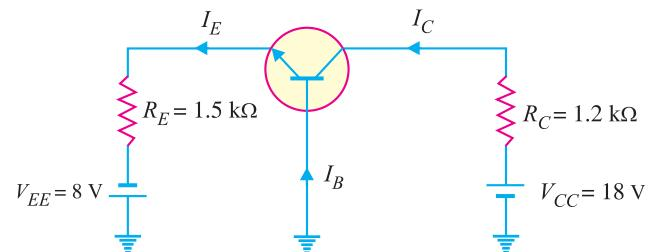

Fig. 8.13
**Example 8.7.** For the common base circuit shown in Fig. 8.13, determine  $I_C$  and  $V_{CB}$ . Assume the transistor to be of silicon.